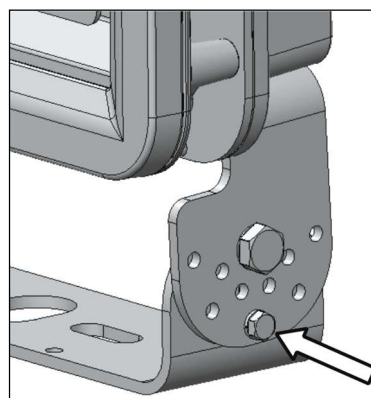

Fig.3
3. Remove the angle locking M6 bolts on both sides [Fig.3]
5. Re-install angle locking M6 hex bolts on both sides [Fig.3] ..... suggested torque = 5 ft.lb. [6.8 Nm]
2. Secure angle locking M6 hex bolts on both sides [Fig.3] ..... suggested torque = 5 ft.lb. [6.8 Nm]